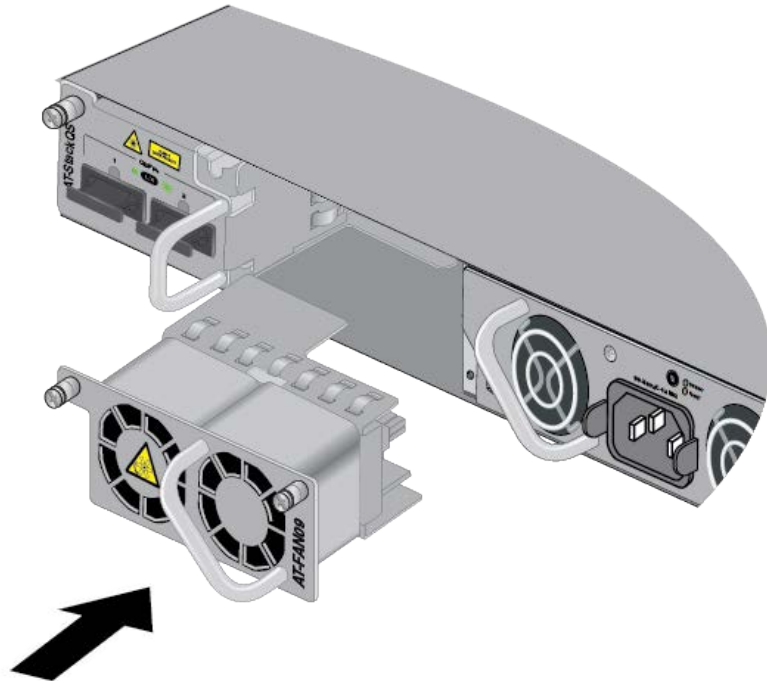

Figure 49. Aligning the AT-FAN09 Module in the Slot
11. Align the AT-FAN09 Module in the slot and carefully slide it into the switch. Refer to Figure 49.